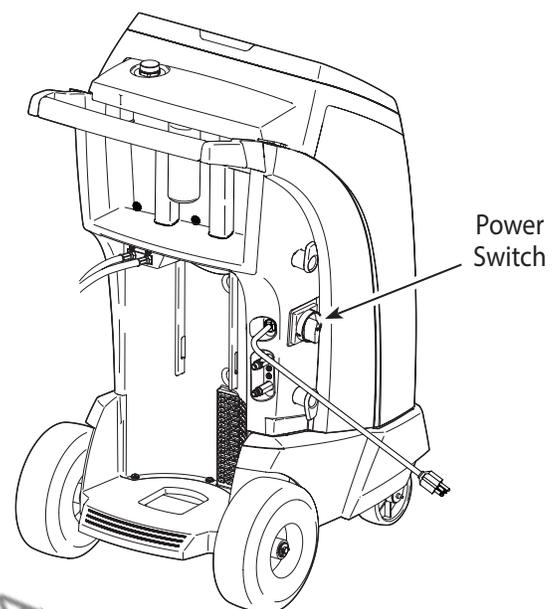

Figure 1
4. Turn the power switch clockwise (CW) to turn the machine ON. See Figure 1.